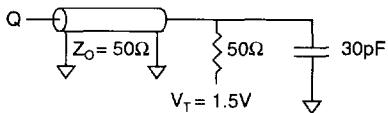

Fig. 1 OUTPUT LOAD EQUIVALENT
Output load .....	See Figures 1 and 2
5. Test conditions as specified with the output loading; as shown in Fig. 1 unless otherwise noted.